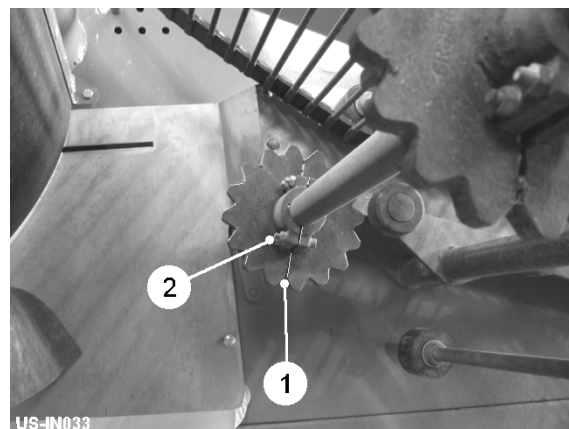

Fig 22
Split web drive sprockets (item 1, fig 22) are used which allow worn sprockets to be replaced, or alternative pitch sprockets to be fitted without having to dismantle the drive shaft. Most drive sprockets will have been split on initial installation. If not, they should be split with a hammer and sharp chisel. Before splitting a sprocket on or off the machine, remove the four fixing bolts (item 2, fig 22). Keep the split halves in the correct pairs to prevent mismatch when refitting.